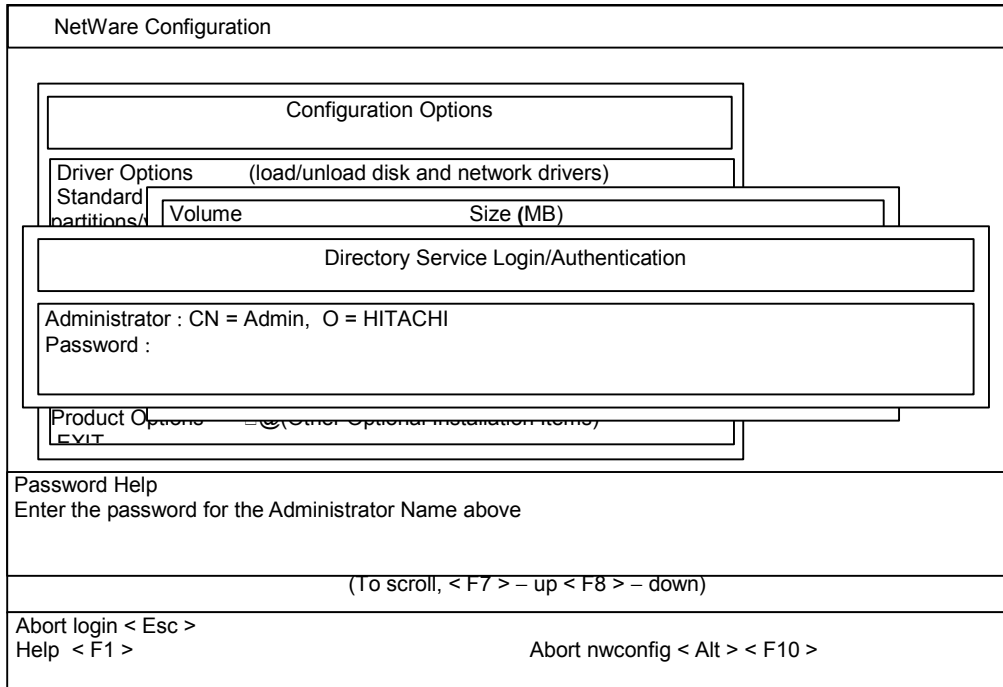

Figure 3.15 Entering the Administrator Password to Perform Mount Operations
2. The mount/dismount volume function requires the NetWare® administrator password. Enter the administrator password on the Directory Services Login screen, and then press **Enter** (see Figure 3.15).